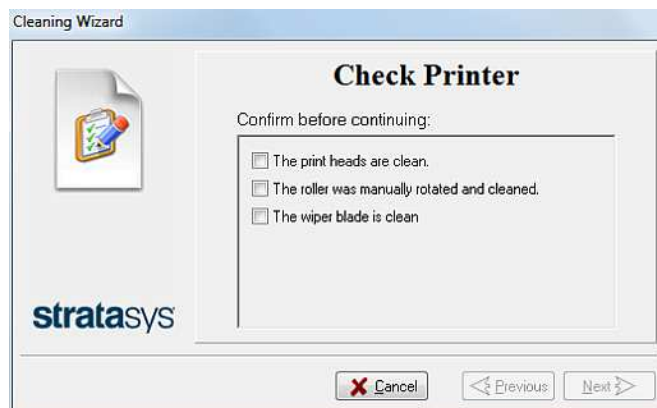

Figure 6-38 Wizard screen during cleaning tasks
14. When you have finished cleaning, select the confirmation check boxes in the wizard screen (see Figure 6-38) and click **Next**.